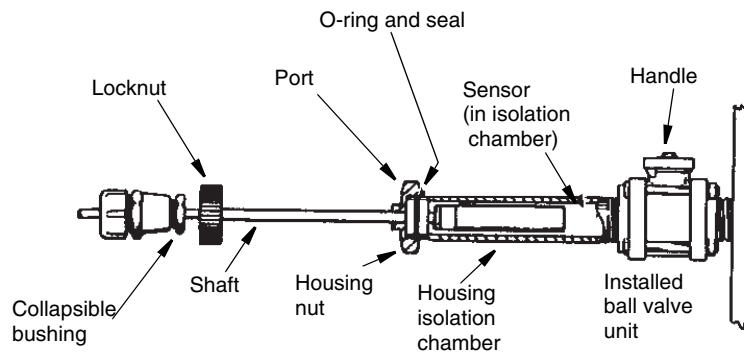

Figure 14. Ball Valve Shaft Installation and Removal
- Carefully insert the sensor (connected to the insertion shaft assembly) into the housing retraction chamber until the O-ring and seal are seated into the end of the chamber (see Figure 14).
- Slowly turn the handle on top of the ball valve unit (see Figure 14) to the open position (parallel to the housing as indicated by the arrow on top of the handle).
Do **not** loosen the **housing nut** (see Figure 14) when the ball valve unit is open and the process line or tank is filled and pressurized.